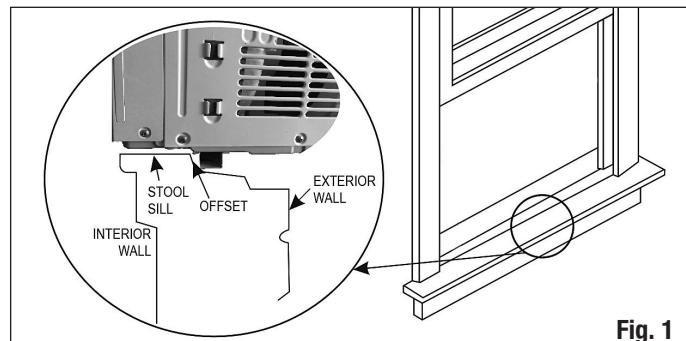

Fig. 1
- The lower sash (the lower part of the window that moves up and down) must allow for a 14.5" of vertical clearance for model 292853 or 16" of vertical clearance for model 293069, 292854 when open. (Fig. 1).